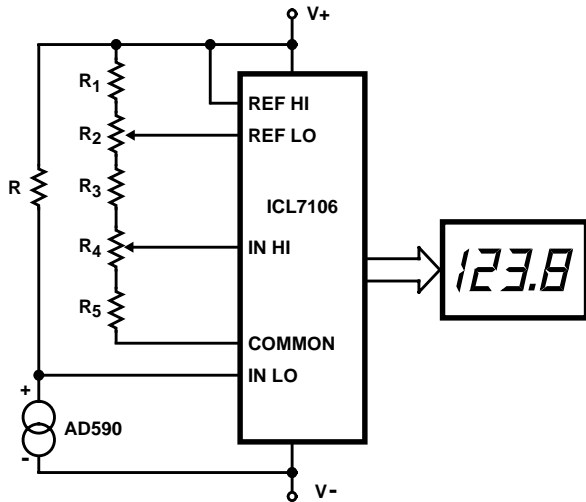
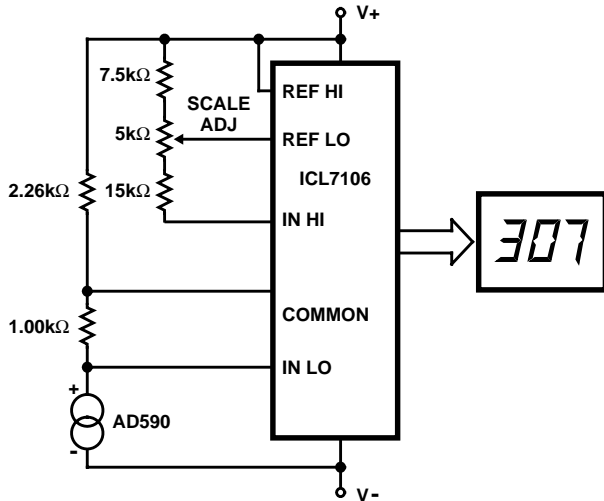
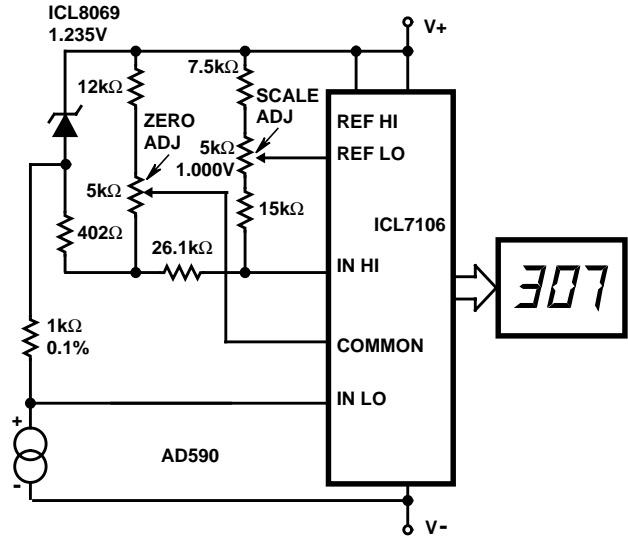

FIGURE 11. BASIC DIGITAL THERMOMETER, CELSIUS AND FAHRENHEIT SCALES
FIGURE 12. BASIC DIGITAL THERMOMETER, KELVIN SCALE
FIGURE 13. BASIC DIGITAL THERMOMETER, KELVIN SCALE WITH ZERO ADJUST
The ICL7106 has a  $V_{IN}$  span of  $\pm 2.0\text{V}$  and a  $V_{CM}$  range of  $(V_+ - 0.5\text{V})$  to  $(V_- + 1\text{V})$ . R is scaled to bring each range within  $V_{CM}$  while not exceeding  $V_{IN}$ .  $V_{REF}$  for both scales is 500mV maximum reading on the celsius range 199.9°C limited by the (short-term) maximum allowable sensor temperature. Maximum reading on the fahrenheit range is 199.9°F (93.3°C) limited by the number of display digits. See Figure 11 and notes below.
The Kelvin scale version reads from 0 to 1999°K theoretically, and from 223°K to 473°K actually. The 2.26kΩ resistor brings the input within the ICL7106  $V_{CM}$  range: 2 general-purpose silicon diodes or an LED may be substituted. See Figure 12 and notes below.
This circuit allows “zero adjustment” as well as slope adjustment. the ICL8069 brings the input within the common-mode range, while the 5kΩ pots trim any offset at 218°K (-55°C), and set the scale factor. See Figure 13 and notes below.
**Notes for Figure 11, Figure 12 and Figure 13**